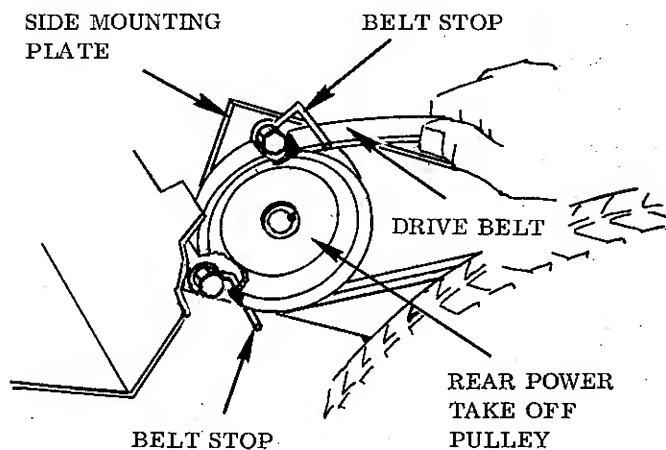

FIGURE 4
6. (See figure 4) Install the revitalizer drive belt over the rear power-take-off pulley of the tractor. If this pulley and the belt stops shown in figure 4 have not been previously installed for use with the revitalizer or rotary tiller, see item (7) and figure (12) of belt replacement in the Maintenance section of this manual for proper positioning.
7. (See Figure 12.) Check power-take-off pulley on the tractor to be sure it is properly installed with the hub facing in toward the tractor. Align the drive pulley with the pulleys on the revitalizer, be sure that these pulleys are in direct line. The key must be in place and the set screw on the pulley hub tightened securely (see also Figure 4).